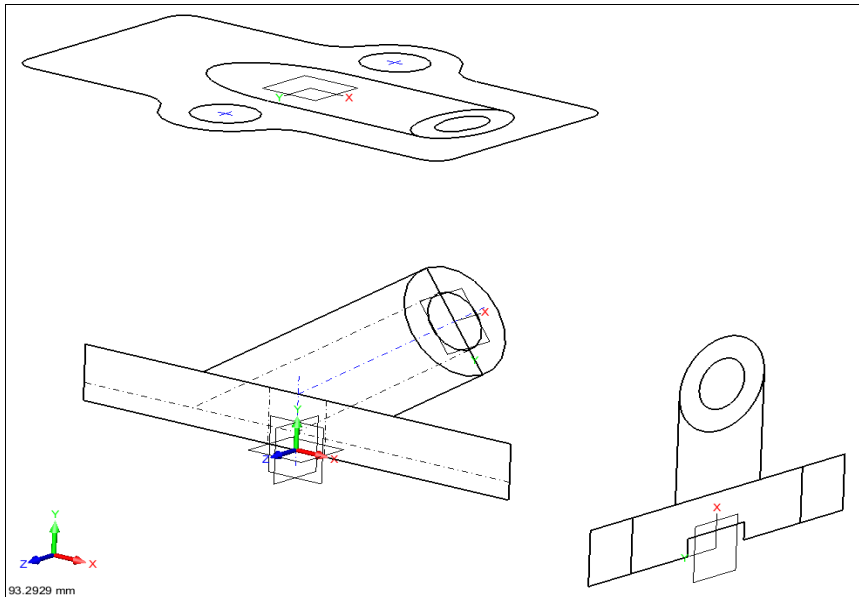

Figure 3. 3D views from 2D drawing
**Step 1.** Using direct editing, you can move the elements of the 2D drawing dynamically into positions suitable for converting them into 3D views. (See figure 3.) This step is important for building the 3D model, because a good beginning makes for a good ending.